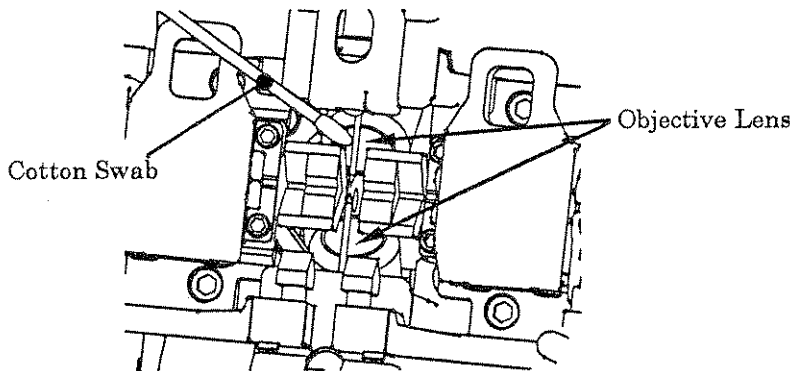

Fig. 5-11. Cleaning Objective Lenses
- (1) Before cleaning the objective lenses, always turn off the splicer.
- (2) Remove the front and rear electrode covers.
- (3) Gently clean the lens surface with an alcohol-impregnated thin cotton swab as shown in Fig. 5-11. Using a cotton swab, starting in the center of the lens, move the swab in a circular motion until you spiral to the edge of the lens surface. Remove excess alcohol from the mirror surface with a clean dry swab.